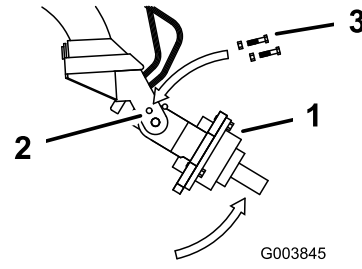

Figure 1
2. Manually rotate the auger drive head up, until you can install two bolts into the holes on both sides of the cradle arms, securing the drive head. Secure each bolt with a nut (Figure 1).